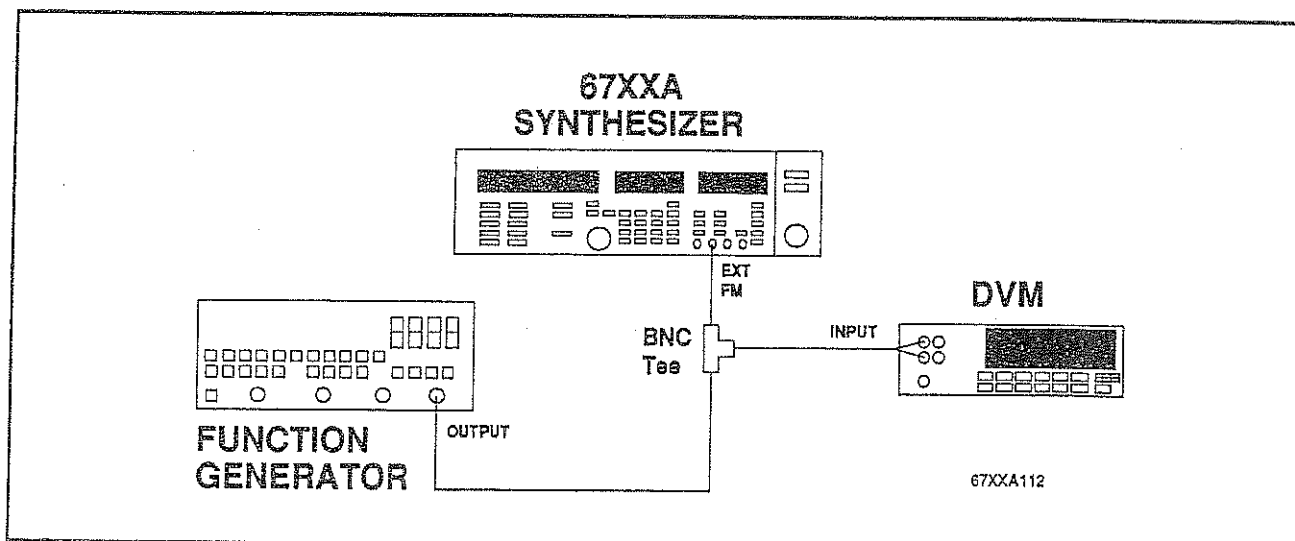

Figure 3-21. Test Equipment Setup for FM Meter Calibration
1. Connect the equipment as was shown in Figure 3-21.